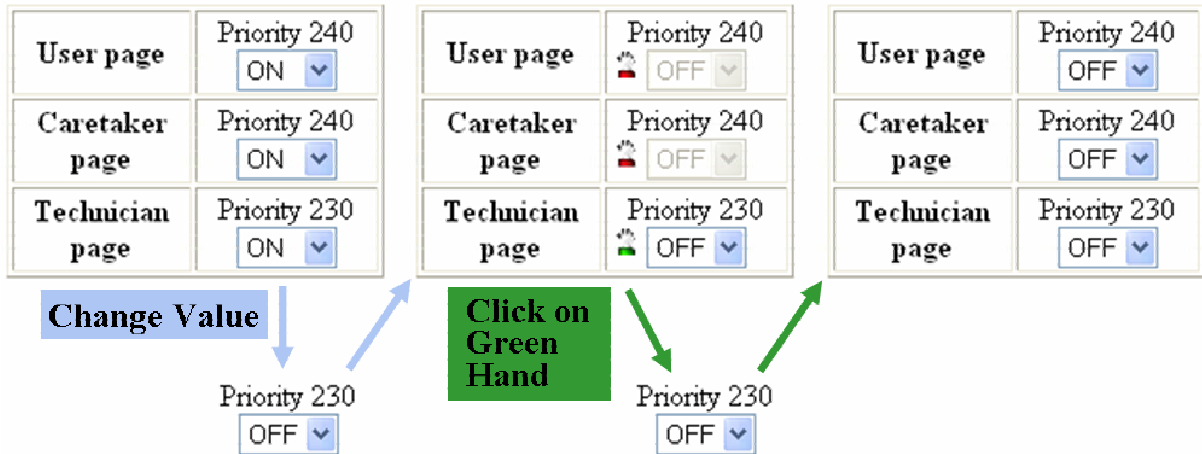

Figure 13.46 Priority Settings
Figure 13.46 demonstrates the use of priority with *i*LON Vision. Imagine a conference room where someone in the room is using a Web interface to control the lighting (first row in Figure 13.46). A caretaker, who is responsible for all the conference rooms in the building, is using a different Web interface where the lighting for all the conference rooms in the building can be controlled centrally (second row in Figure 13.46). A technician, who needs to be sure that nobody accidentally switches on the electricity while he or she is at work, is using his own high-priority Web interface. The sequence of priority level changes that could occur are depicted and described in Figure 13.46.
At first, all pages have access to the data point, as shown in the left column of Figure 13.46. If the technician issues a high-priority (230) write operation to turn the lighting in a room off, the data point is manually overridden, and the caretaker and the conference room user will no longer have access to the lighting (middle column in Figure 13.46). The conference room user and caretaker will be informed of the fact that they can no longer adjust the lighting by the red hand in
the Manual Locked icon besides their now disabled control object on the Web page. This exclusion of low priority users in turn is signified to the technician by the green hand in the Manual Override icon on his Web page. The technician can release the data point to low level control by clicking on the green hand. After this, the other users can write to the data point, as shown in the right column of Figure 13.46.